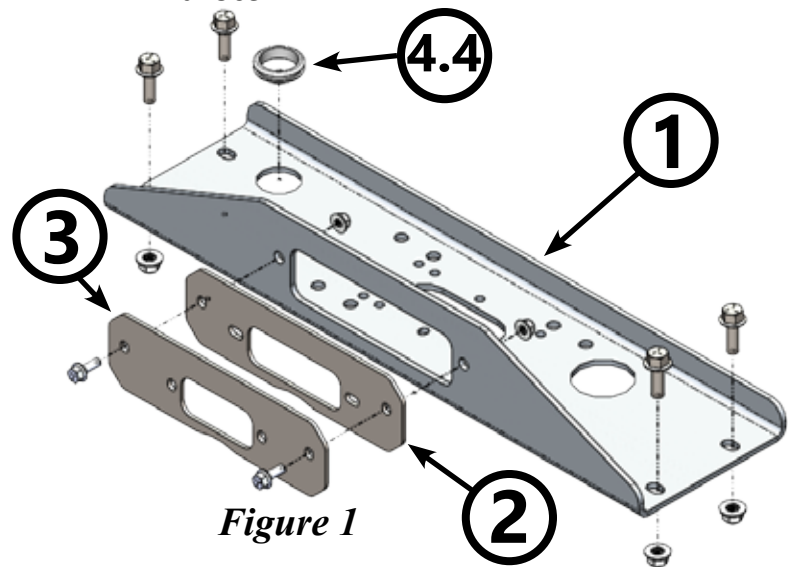

Figure 1
1. Install 1-3/4" ID rubber grommet (4.4) as shown in **Figure 1**.